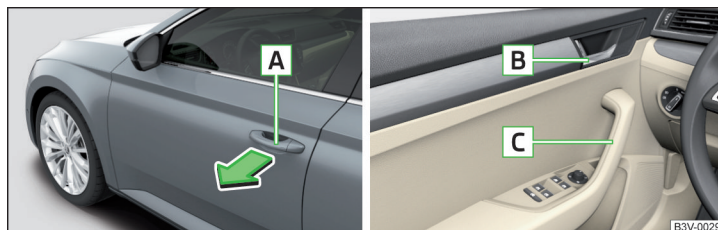

Fig. 41 Door handle/door opening lever
- Pull on the door handle **A** in the direction of the arrow » Fig. 41.